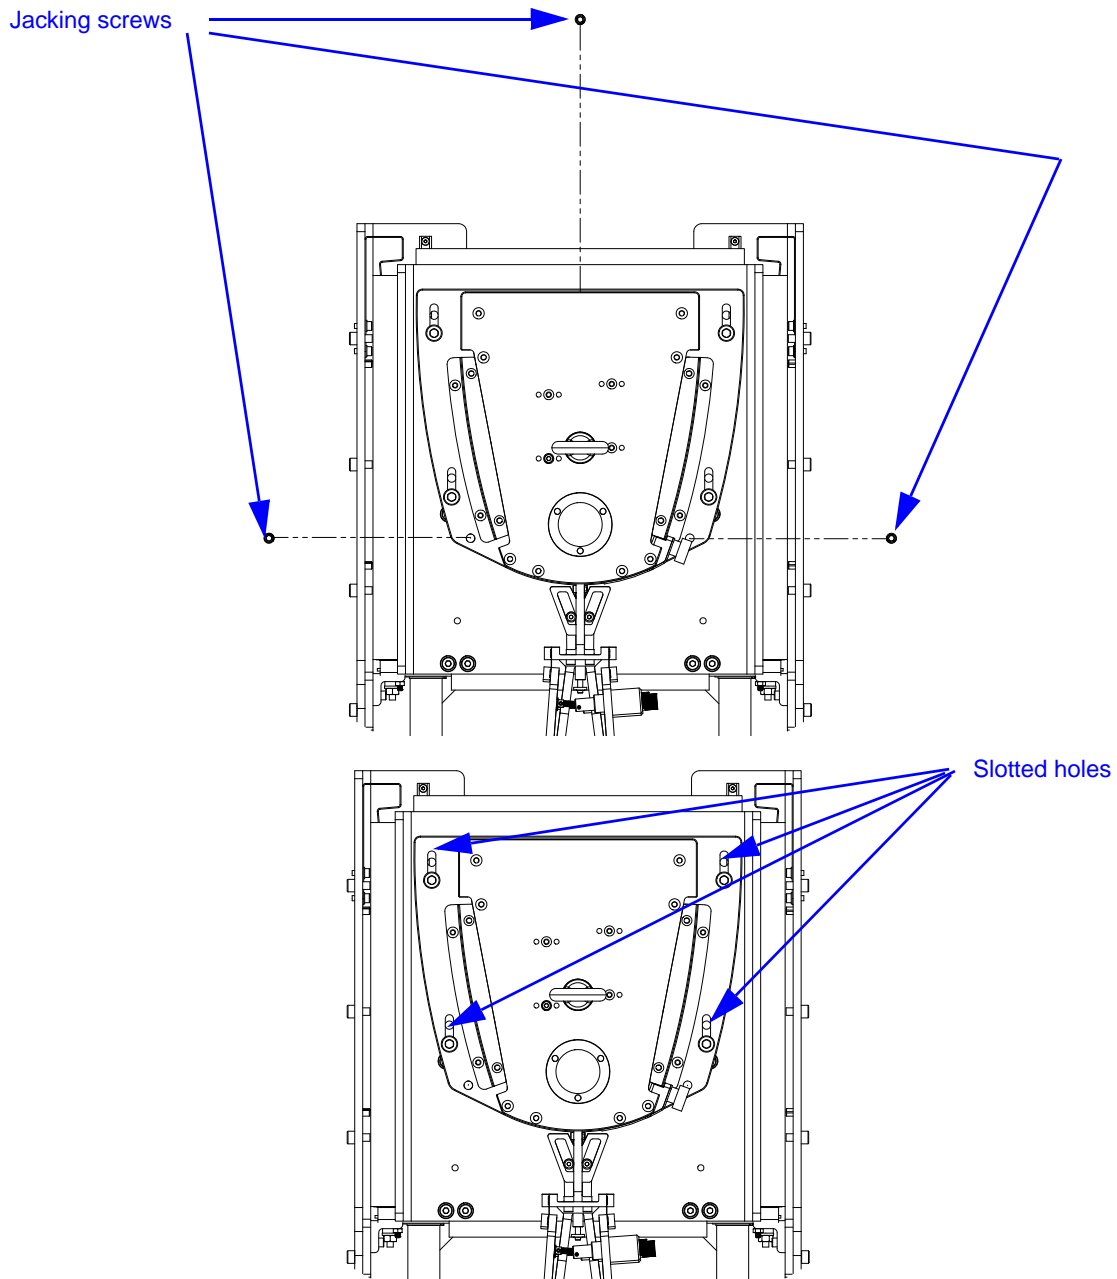

Figure 8. Alignment mechanisms
3. The aim of the alignment is to maintain the knife edges touching the specimen throughout the entire range of travel of the arms. Figure 8 on page 28 shows the various adjustment mechanisms on the base of the AutoX and their effect on the alignment.
- b. Back off the three hex jacking screws (see Figure 8 on page 28).